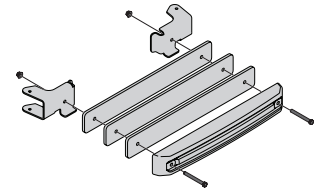

Figure 23
1. Attach the RZT bagger weight (719-04271A) and three weight plates (789-02137) to the weight hanger brackets (Left - 789-04077, Right - 789-04078) with two 3/8" hex head capscrews (710-3085) and two nuts (712-04065) as shown in Figure 23.